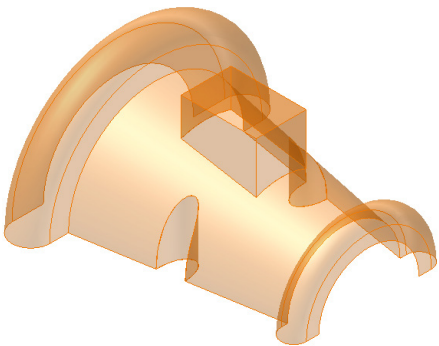

Figure 18-65 Model after stitching surfaces
- j. Stitch all surfaces together and fillet all sharp edges, refer to Figure 18-65.
1. Invoke the **Stitch Surface** tool from the **Surface** panel of the **3D Model** tab. Select all the surfaces so that they get stitched together. Next, choose **Apply** and then **Done** from the **Stitch** dialog box. Figure 18-65 shows the model after stitching surfaces.